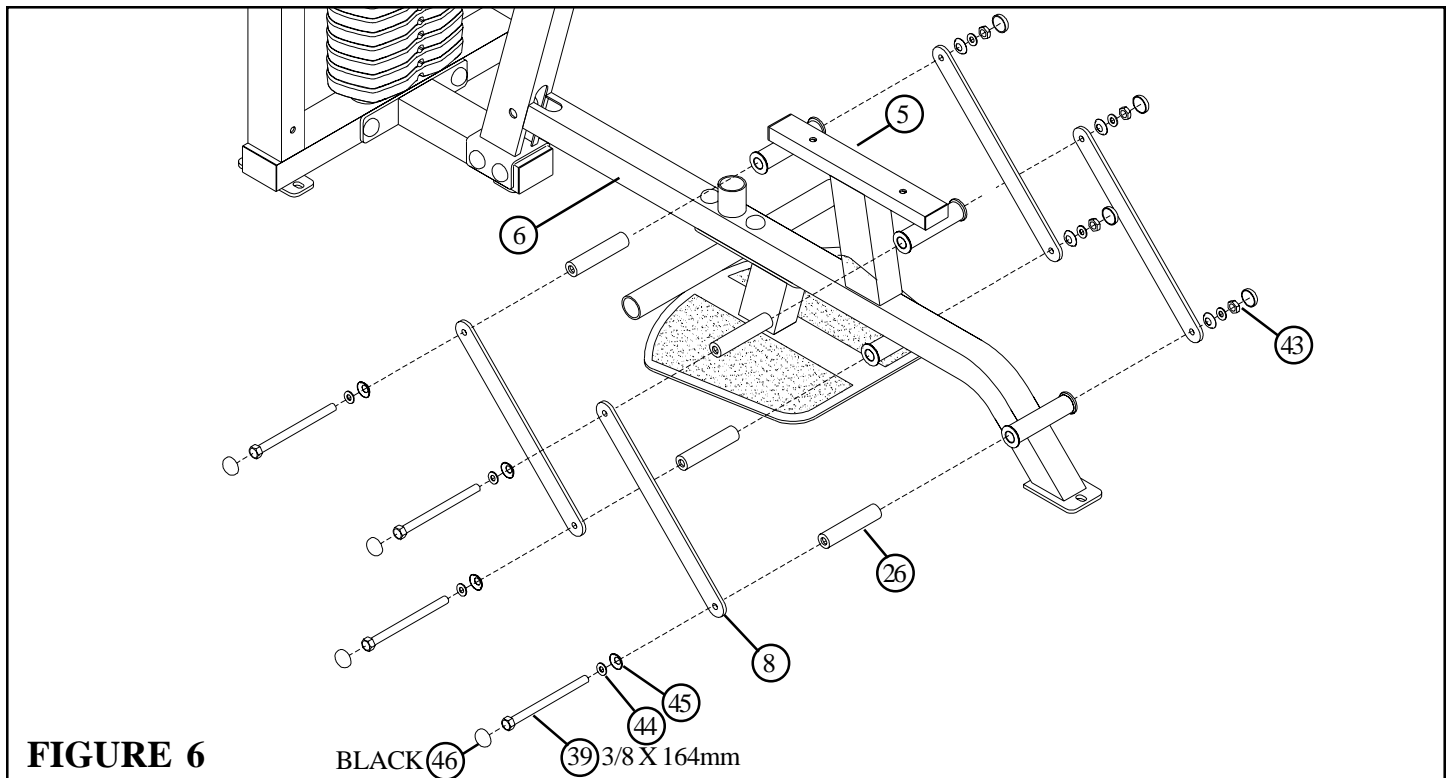

FIGURE 6
- **Securely tighten all loose frame connections made to this point, then proceed to snap RH CAPS (47) over the RH WASHERS (45) on all tightened connections.**
- Slide the 13/16" SHAFT COLLARS (24) up against the GUIDE ROD SUPPORT (12) and **SECURELY** tighten the set screws on the SHAFT COLLARS (24). See FIGURE 6.
- Insert four 5-1/2" PIVOT SHAFTS (26) into the LAT/LOW FRAME (6) and the LAT/LOW SEAT (5) as shown in FIGURE 6.
- **SECURELY** assemble four LAT/LOW PLATES (8) to the LAT/LOW SEAT (5) and to the LAT/LOW FRAME (6) using eight BLACK RH CAPS (46), four 3/8 X 164mm BOLTS (39), eight 3/8" SAE WASHERS (44), eight 3/8" RH WASHERS (45) and four 3/8" LOW HEIGHT LOCK NUTS (43) as shown in FIGURE 6.